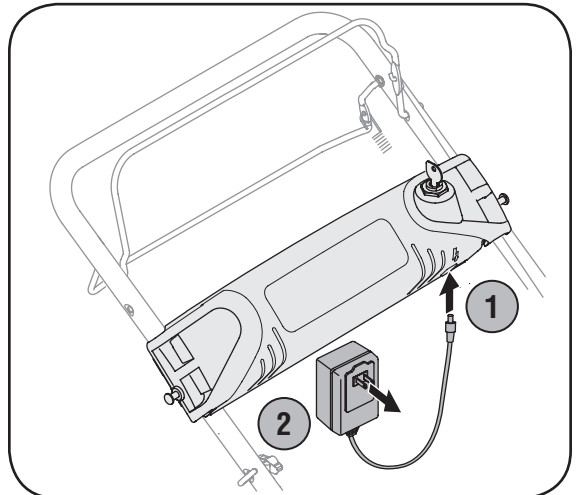

Figure 5-8
1. Plug the battery charger into the port on the underside of the battery housing. See Figure 5-8.